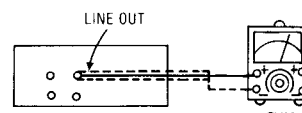

Fig. 4
1. Test equipment connection is shown in Fig. 4.